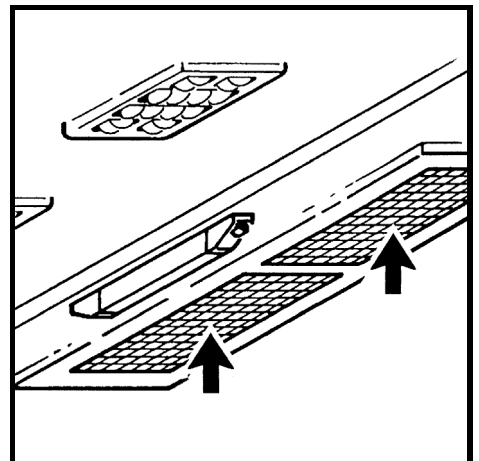

Fig. 43
- Clean the recirculating air filter on the evaporator in the cab (Fig. 43).